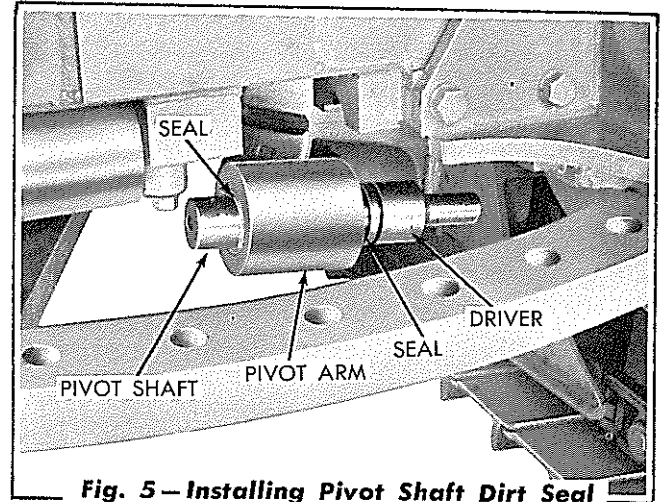

Fig. 5 — Installing Pivot Shaft Dirt Seal
- c. Install a new dirt seal on one end of the pivot shaft using a driver similar to the one shown in Fig. 5. The outside diameter of the driver should be 3-5/16". The inside diameter should be 2 1/2" and should be machined to a depth of 2 1/4". Lubricate the pivot shaft and start it into the bushing, with the oil hole in the shaft to the inside and positioned on the top as installed. Using the driver, drive the dirt seal and shaft into position. Start the other dirt seal, and while "bucking" the opposite end of the shaft, drive the seal into position using the driver.